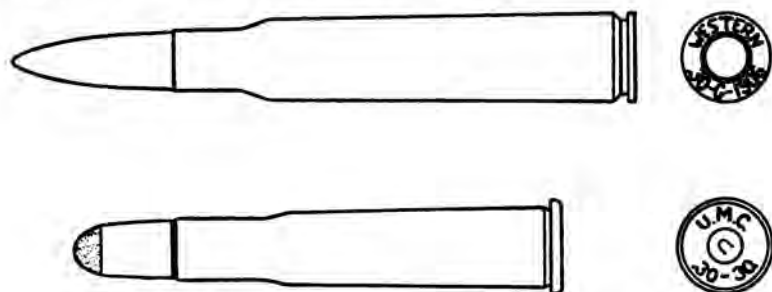

FIGURE 55. TWO POPULAR CARTRIDGES OFTEN CONFUSED
**The .30-30 Cartridge.** Many men have the erroneous idea that the "Springfield rifle was made for the .30-30 cartridge." This is not so. The .30-30 cartridge has never been used for military purposes by the United States Government. It is a medium size sporting cartridge intended for the shooting of deer and similar sized game. It was originated by the Winchester Repeating Arms Company in 1896, and is called by them the ".30 Winchester Center Fire." This cartridge has probably been used in America for deer shooting more than any other cartridge. See Figure 55. No service rifle, made by our Government for use by our armed forces, has ever been chambered for the .30-30 cartridge.